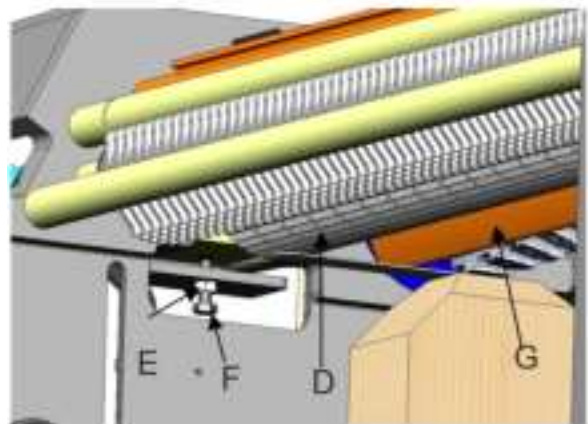

FIG. 18: INFEEED ROLLER ADJUSTMENT
2. Remove feeler gauge and place wood block under the left side of infeed roller (Fig. 18, D). The top of wood gauge should just contact the infeed roller. If it doesn't, loosen jam nut (Fig. 18, E) and turn the adjusting screw (Fig. 18, F) to raise, or lower the infeed roller until it contacts wood gauge then tighten the nut (E). Repeat for opposite side of the infeed roller.